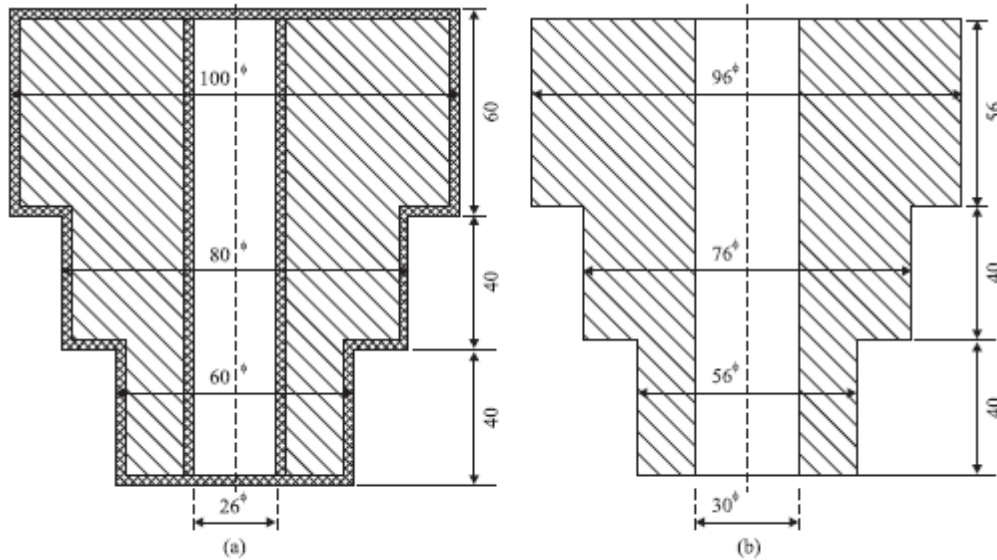

Fig. 5.2 (a) Component as cast, (b) Finished component (All dimensions are in mm).
- 2 (a) A cast iron component is to be manufactured as per Fig. 5.2. Estimate the selling price per piece from the following data : BT2